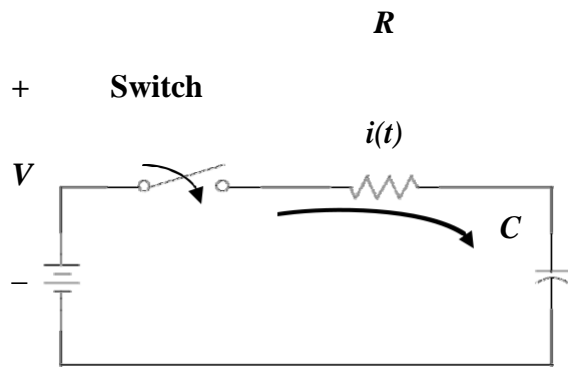

Fig. 6. Simple RC Circuit
3.3.2. The equation $v_C(t) = V(1 - e^{-t/\tau})$ describes behavior of current in the RC circuit of Fig. 6, where $v_C(t)$ is the capacitor voltage after the switch is closed ($t = 0$), and V is the DC voltage. Since v_C cannot change instantaneously, $v_C(t=0) = 0$ (assuming no charge on the capacitor at $t = 0$). τ is the “time constant,” the time it takes for the voltage to change to $(1 - 1/e)$ of its former value. Thus, is a measure of the duration of transient behavior. The unit of a time constant is seconds, and the smaller it is, the quicker transient behavior is over. Although an exponential function never mathematically reaches its asymptote, transient behavior is over in about ten time constants. For a series RC circuit, $\tau = RC$ (R in Ohms, C in Farads). Thus, $v_C(t) = V(1 - e^{-t/RC})$.